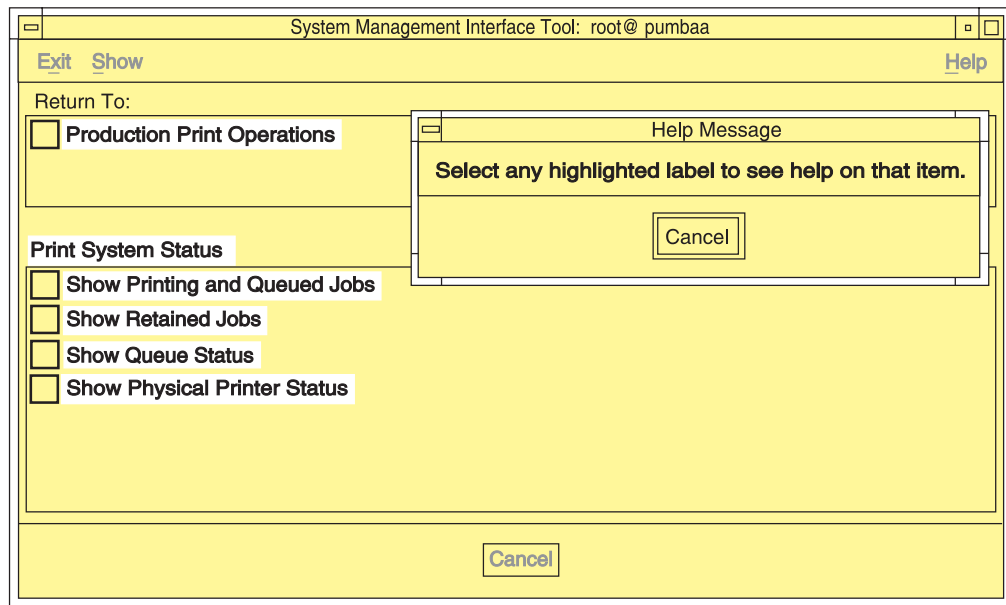

Figure 64. Help for SMIT Panel Menu Selections
1. Press **Ctrl + F1**. All the menu selections on the panel are highlighted. The mouse pointer changes to a question mark. A **Help Message** window opens with instructions on how to access help. Figure 64 on page 283 shows an example of the results of pressing **Ctrl + F1** for a SMIT panel.